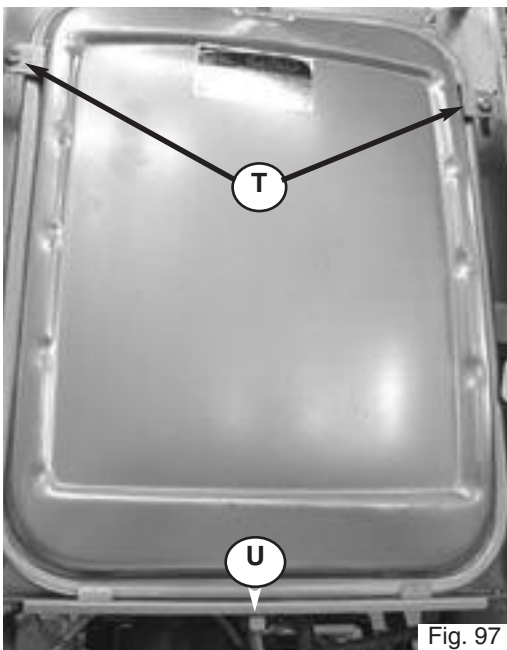

Fig. 97
4. Remove the two screws **T** (see Fig. 97);